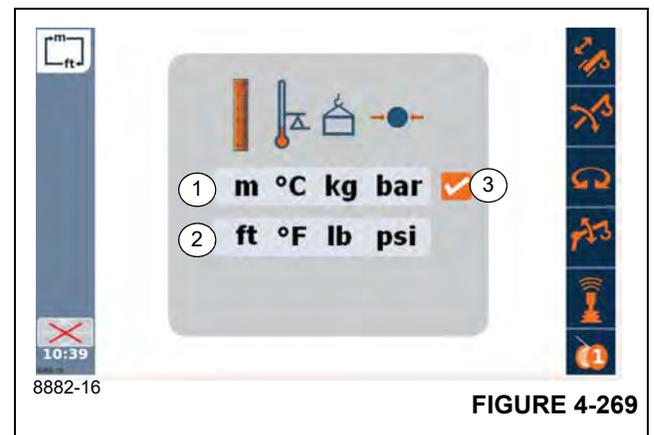

FIGURE 4-269
Use the Switch Units (Figure 4-269) to select either Metric (1) units of measure or Imperial (2) units of measure.
The symbol (3), (Figure 4-269) shows the respective confirmed selection as shown with a check mark.